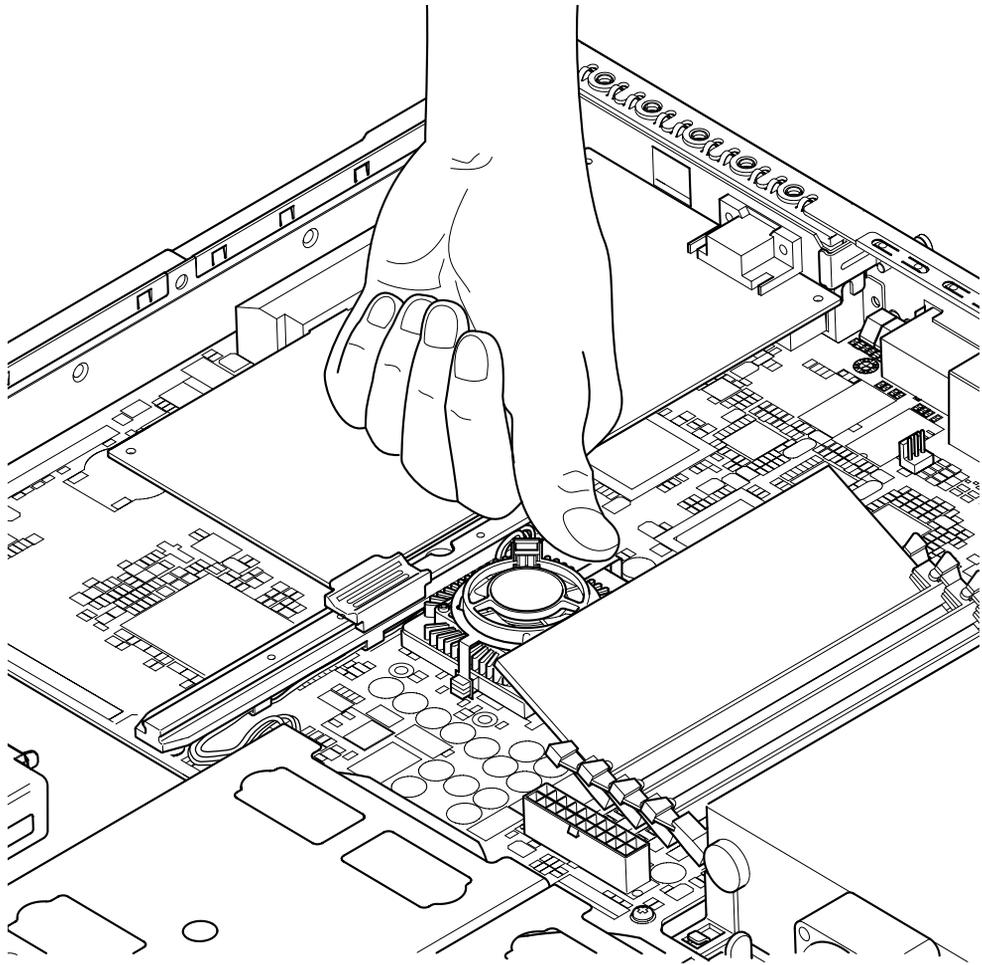

FIGURE 11-9 Pressing Down on the Long Arm of the Clip to Remove Fan 3
Fan 3 is located in the center of the system board on top of the CPU mounting (see FIGURE 11-9).
3. **Press down on the long arm of the fan’s metal fastening clip (see FIGURE 11-9) and then, with a finger of your other hand, unhook the clip from the CPU mounting.**